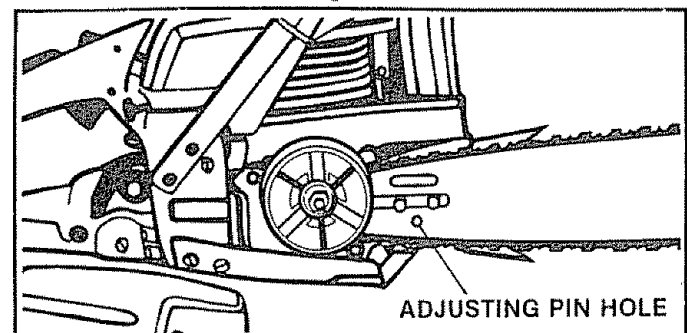

Figure 7
- Pull the Guide Bar forward until the chain is snug in the guide bar groove. Figure 7.